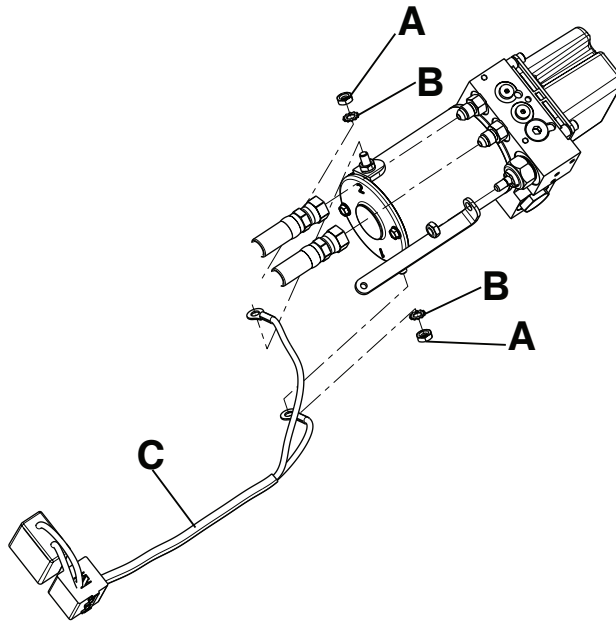

Figure 40 – Motor assembly
4. Using a 7/16" combination wrench, remove the two nuts (A) and star washers (B) that secure the motor cable (C) to the motor assembly (Figure 40). Save the nuts and washers.